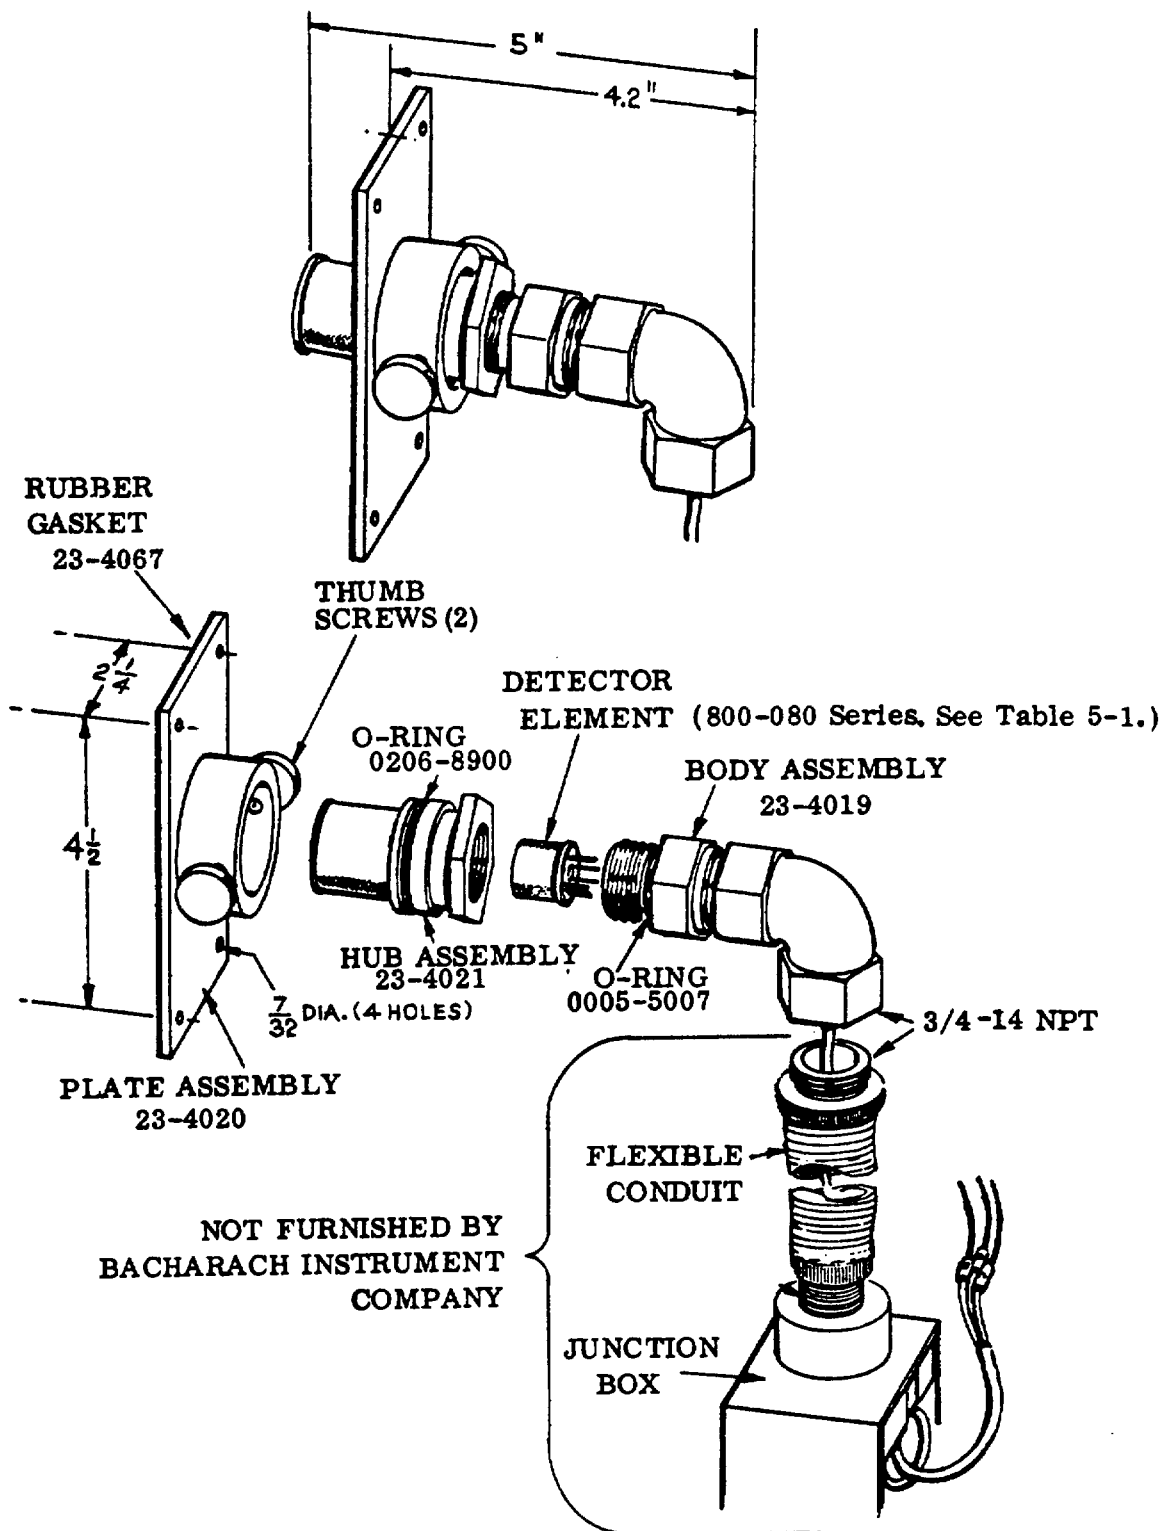

Figure 2-21. Detector Model 0023-4014 Exploded View
- c) To expose sensor element of Detector #0023-4014 (Figure 2-21):